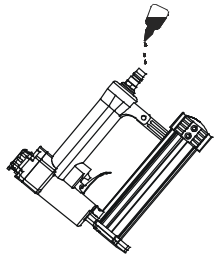

Figure 2
1. Determine if the tool needs oil and, if necessary, place two drops of oil in the AIR PLUG(59) as shown in Figure 2. If you are using an automatic in-line oiler, check and add oil if necessary.